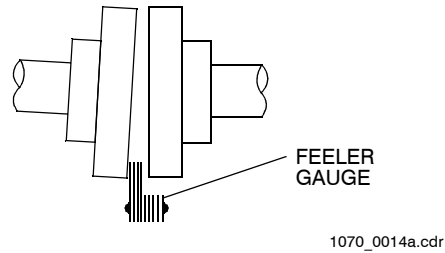

Figure 3-8. Checking for Angular Coupling Misalignment
1. Insert feeler gauge between coupling halves as shown in Figure 3-8.